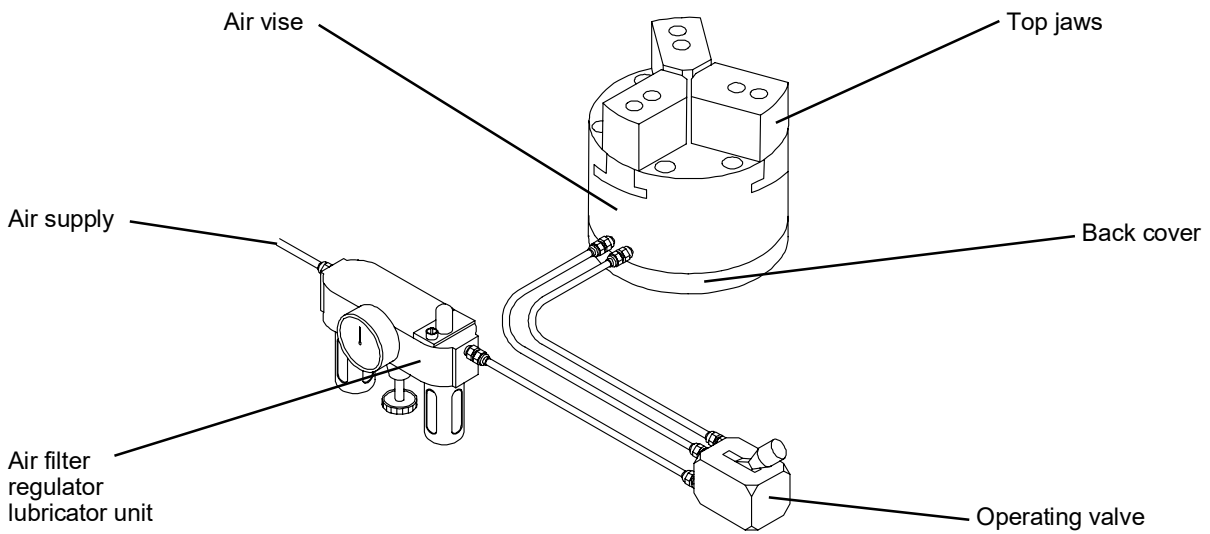

Fig. 1.3
4. Connect control valve, air hoses, and air filter-regulator-lubrication unit carefully as illustrated in fig. 1.3. The usage of an air filter-regulator-lubrication unit is an absolute must, cause otherwise the NR-chuck could be damaged. To actuate the chuck any valve can be used, which observe the valid instructions and laws to avoid accidents. MicroCentric offers corresponding hand-valves, foot-valves and pneumatic control units. The NR-chuck should work with low air pressure now.